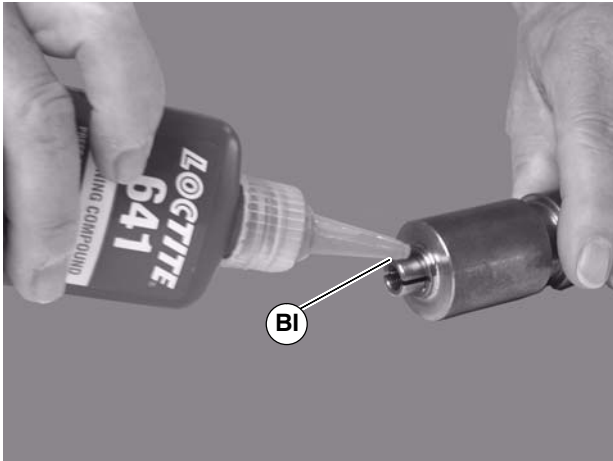

Figure 47
1. Apply a small amount of Loctite 641, or equivalent, to the outside of shaft (BI of Figure 47).